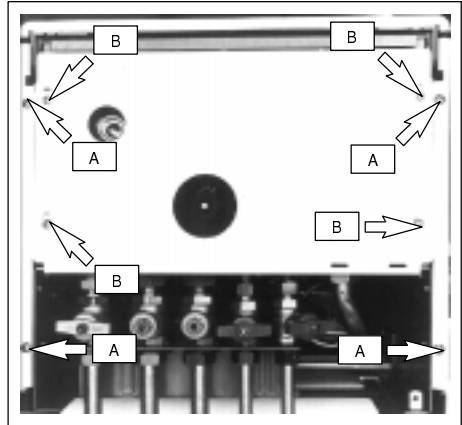

fig. 6.2
- 2 Slacken off screws "A" (fig. 6.2) and remove the two side panels.
- 3 Slacken off screws "B" (fig. 6.2) and remove the lower protection plate moving it towards the back side of the boiler.